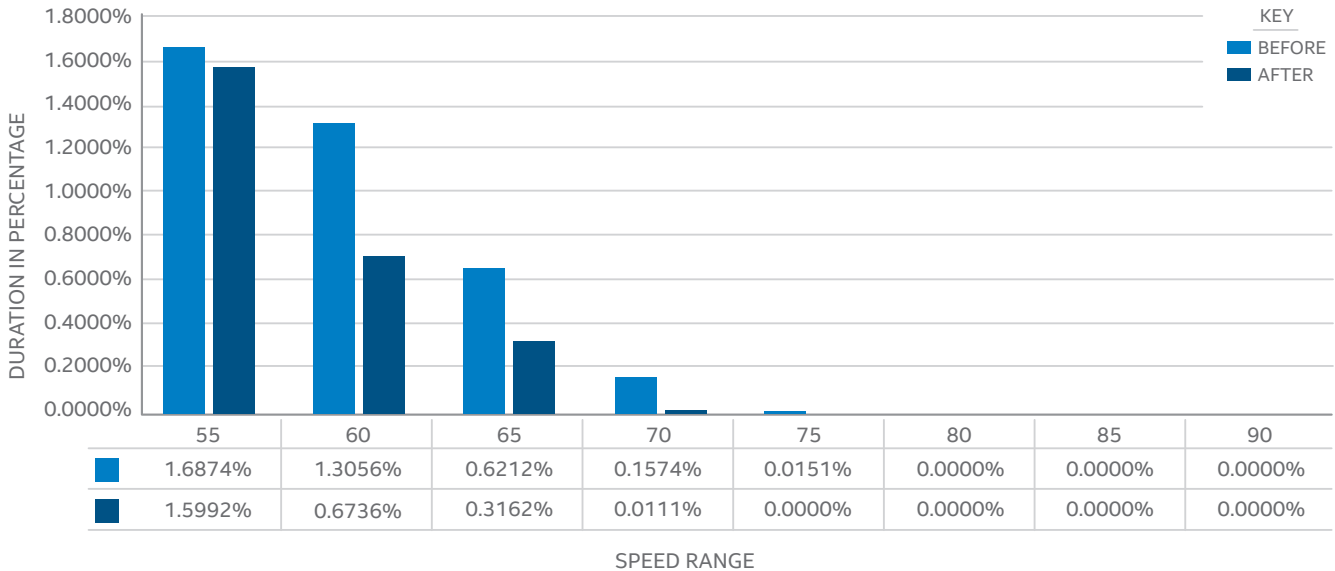

Figure 6. Fuel Inefficient Driving Test Results.¹
- Figure 6.** Fuel Inefficient Driving Test Results6
During the test, the amount of time the participants drove at higher speeds (55 to 75 km/h) was monitored. Figure 6 shows the drivers drove for longer periods at faster speeds before the Intel solution was turned on. Afterwards, the drivers slowed down, which improved fuel economy. Therefore, fuel consumption rate decreased when the drivers were using the Intel solution. In conclusion, the Intel solution can improve driving behavior as well as reduce fuel consumption.